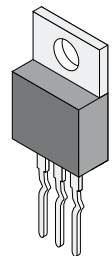

Figure 1. Replacement MJE15032, with leads prepped for strain relief
- One prepped MJE15032 transistor (see Figure 1) per RMX 2450 amplifier